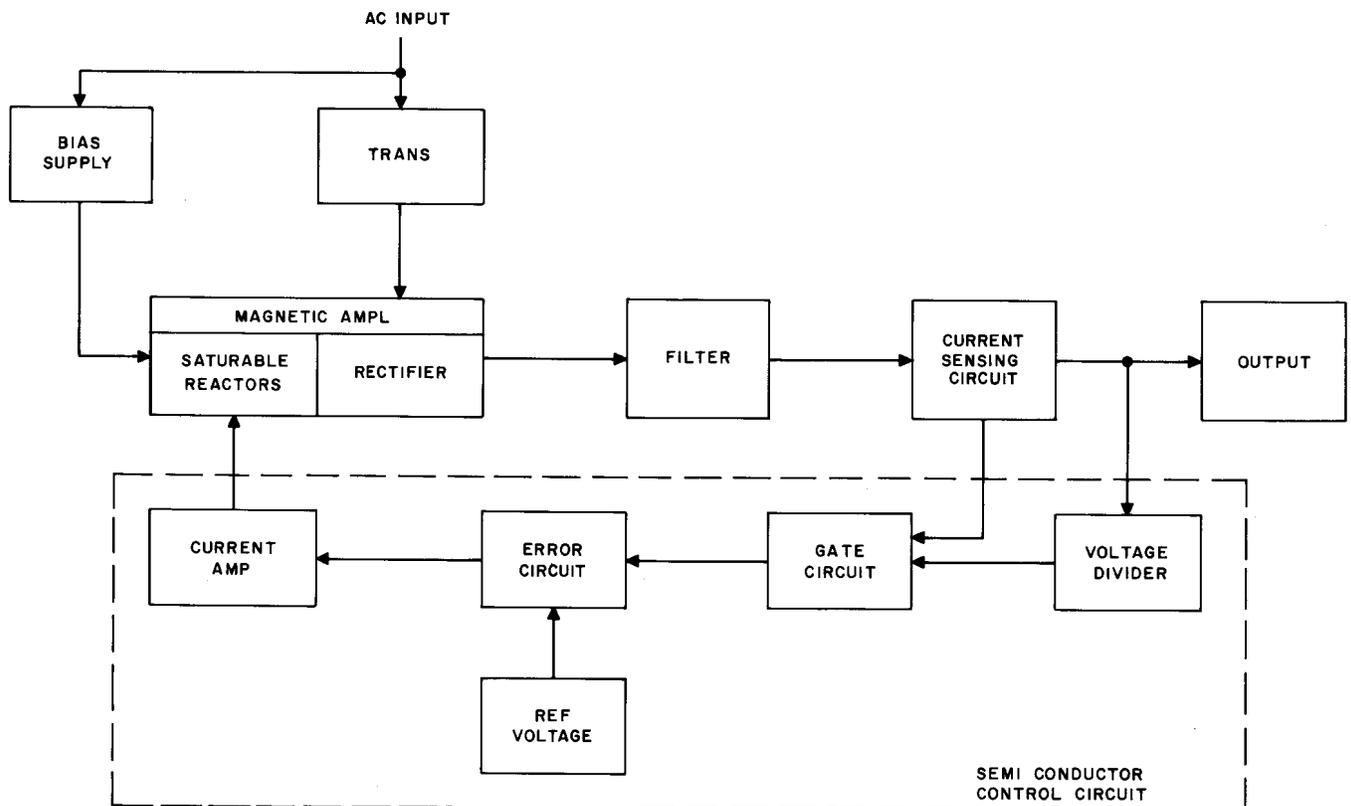

Fig. 1—J86295A Rectifier—Block Diagram
5.01 This rectifier consists of main power circuit controlled through a semiconductor regulating circuit whose input is battery voltage through the regulating leads of the main unit. In addition, a signal from the current sensing circuit is introduced into the regulating circuit for the purpose of current limitation. The output of the regulating circuit is introduced into saturable reactors in the main power circuit in order to make the desired corrections in the power output. In the maintenance of intricate equipment, trouble must be localized in an orderly way. This is difficult in the case of a circuit having this feedback loop arrangement because trouble anywhere in the loop will give faulty operation of other parts of the loop which may be trouble free. In this rectifier, provision has been made for opening the loop by means of switches which permit checking the performance of each major subdivision of the equipment until the trouble is located. Refer to block diagram Fig. 1.